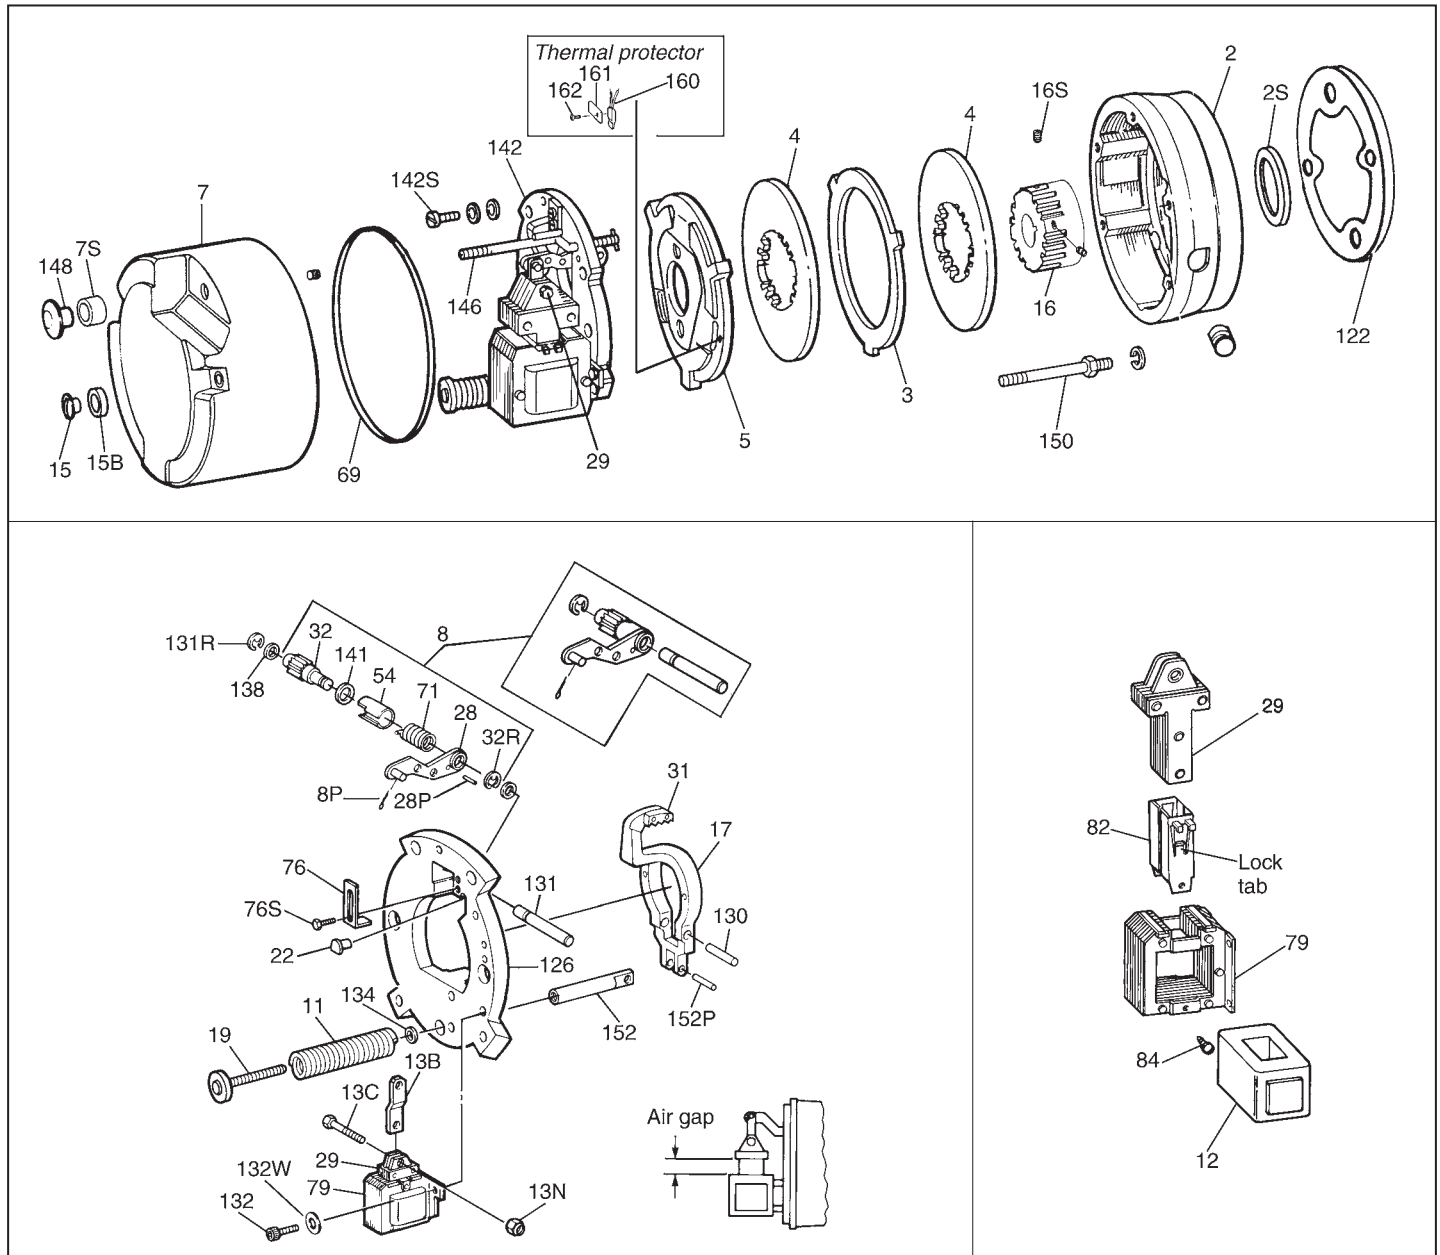

Figure 1
9. Mount support plate assembly (142) to endplate using screws and conical spring washers (142S and 142W). Flat washer (142X) is installed under the conical spring washer. Torque these screws (142S) to 50 lb-in nominal. Be sure the assembly is mounted with the solenoid plunger above the solenoid frame on horizontally installed brakes. (See *Installation Procedure*, Item 2 Note.)
**Note:** If release rod is not in manual release position and has allowed the mechanism to overadjust, the support plate will not seat against the endplate. It will have to be reset. In this case the lever arm (17) throat will be near, or touching, the pinion (32) teeth. Loosen pressure spring nut (19) until pressure spring (11) is free. Mount support plate and retighten spring nut, do not overtighten. Lift plunger to maximum travel and release.
15. Reinstall housing (7) and housing gasket (69) to endplate (2), being careful to guide the manual release rod (146) through seal (7S) in the housing. Do not hang the housing from the release rod, as this may bend the rod making it inoperable. Install the housing screws (15) and O-rings (15B).
**Note:** To meet the requirements for Class II, Division 2 enclosure, the 87,800 Series Brake must include the following seals and gaskets shown in Figure 1:
- a) Manual release rod seal (7S) pressed into brake housing (7).
- b) O-rings (15B) assembled between housing (7) and housing screws (15).
- c) Housing gasket (69) installed between endplate (2) and housing (7).
- d) Hub seal (2S) pressed into endplate (2).
- e) Brake - motor gasket (122) positioned between brake and motor.